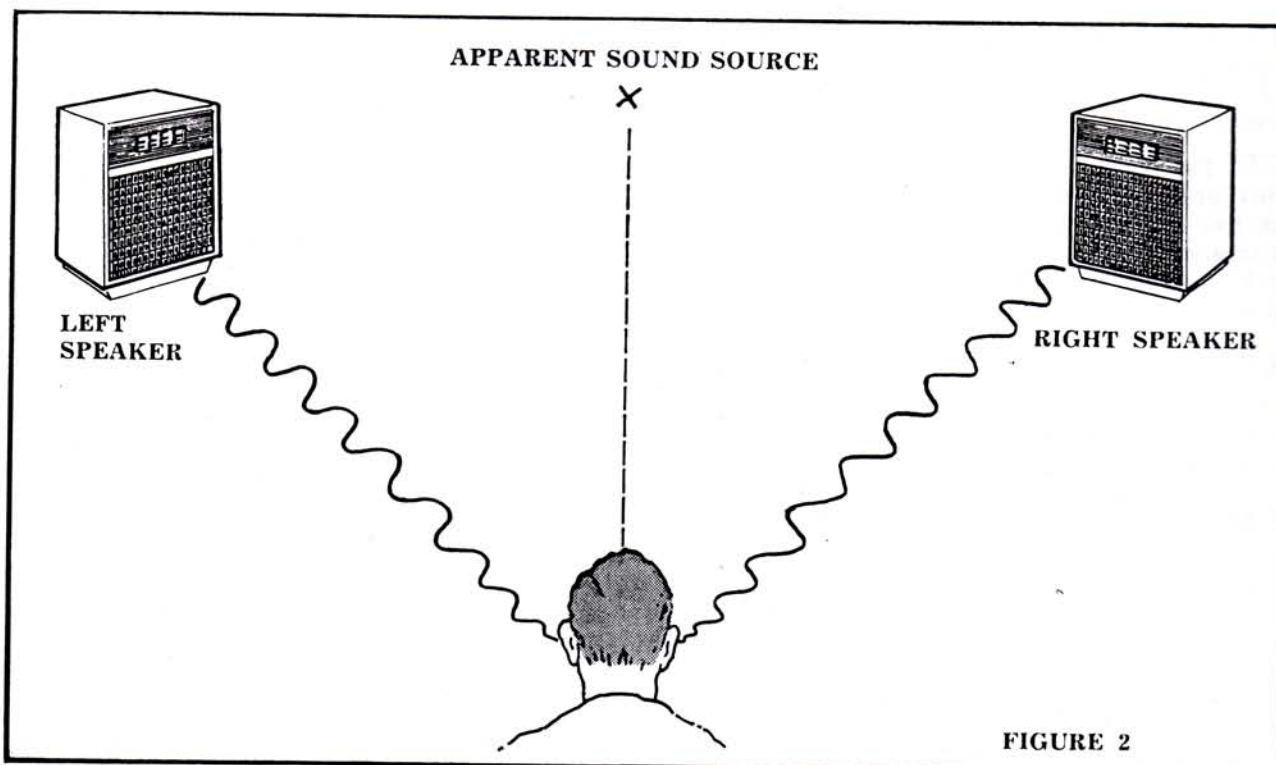

FIGURE 2
of phase, they will work in opposition to each other and there will be a noticeable loss in the low frequencies (bass). If the speaker output levels are not equal, there will be an unnatural distribution of the musical program, resulting in a loss of the stereo effect. To obtain correct balancing and phasing, use the following procedure. It is based on a simple listening principle which says that if two speakers send out identical sound, and you are equidistant from them, your ears will place the apparent source of sound half way between the two speakers, as indicated in Figure 2.
c) For this test, the speakers should be placed about 6 to 8 feet apart and facing inward slightly as shown in Figure 2. You may also require the help of another person to operate the amplifier controls while you position yourself mid-way between the speakers as shown.
the sound will seem to come from between the speakers as shown in Fig. 2. During stereo operation, this condition will no longer exist, of course, and reproduction will be properly distributed, in accordance with the manner in which the original stereo recording was made.